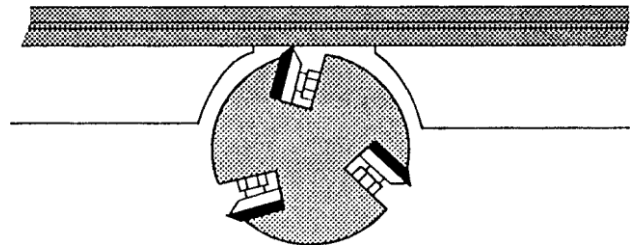

Fig. 21
3. Place a metal straightedge across both tables as shown in Figure 21, and make sure both tables are set to the exact height of the high point of the knives.